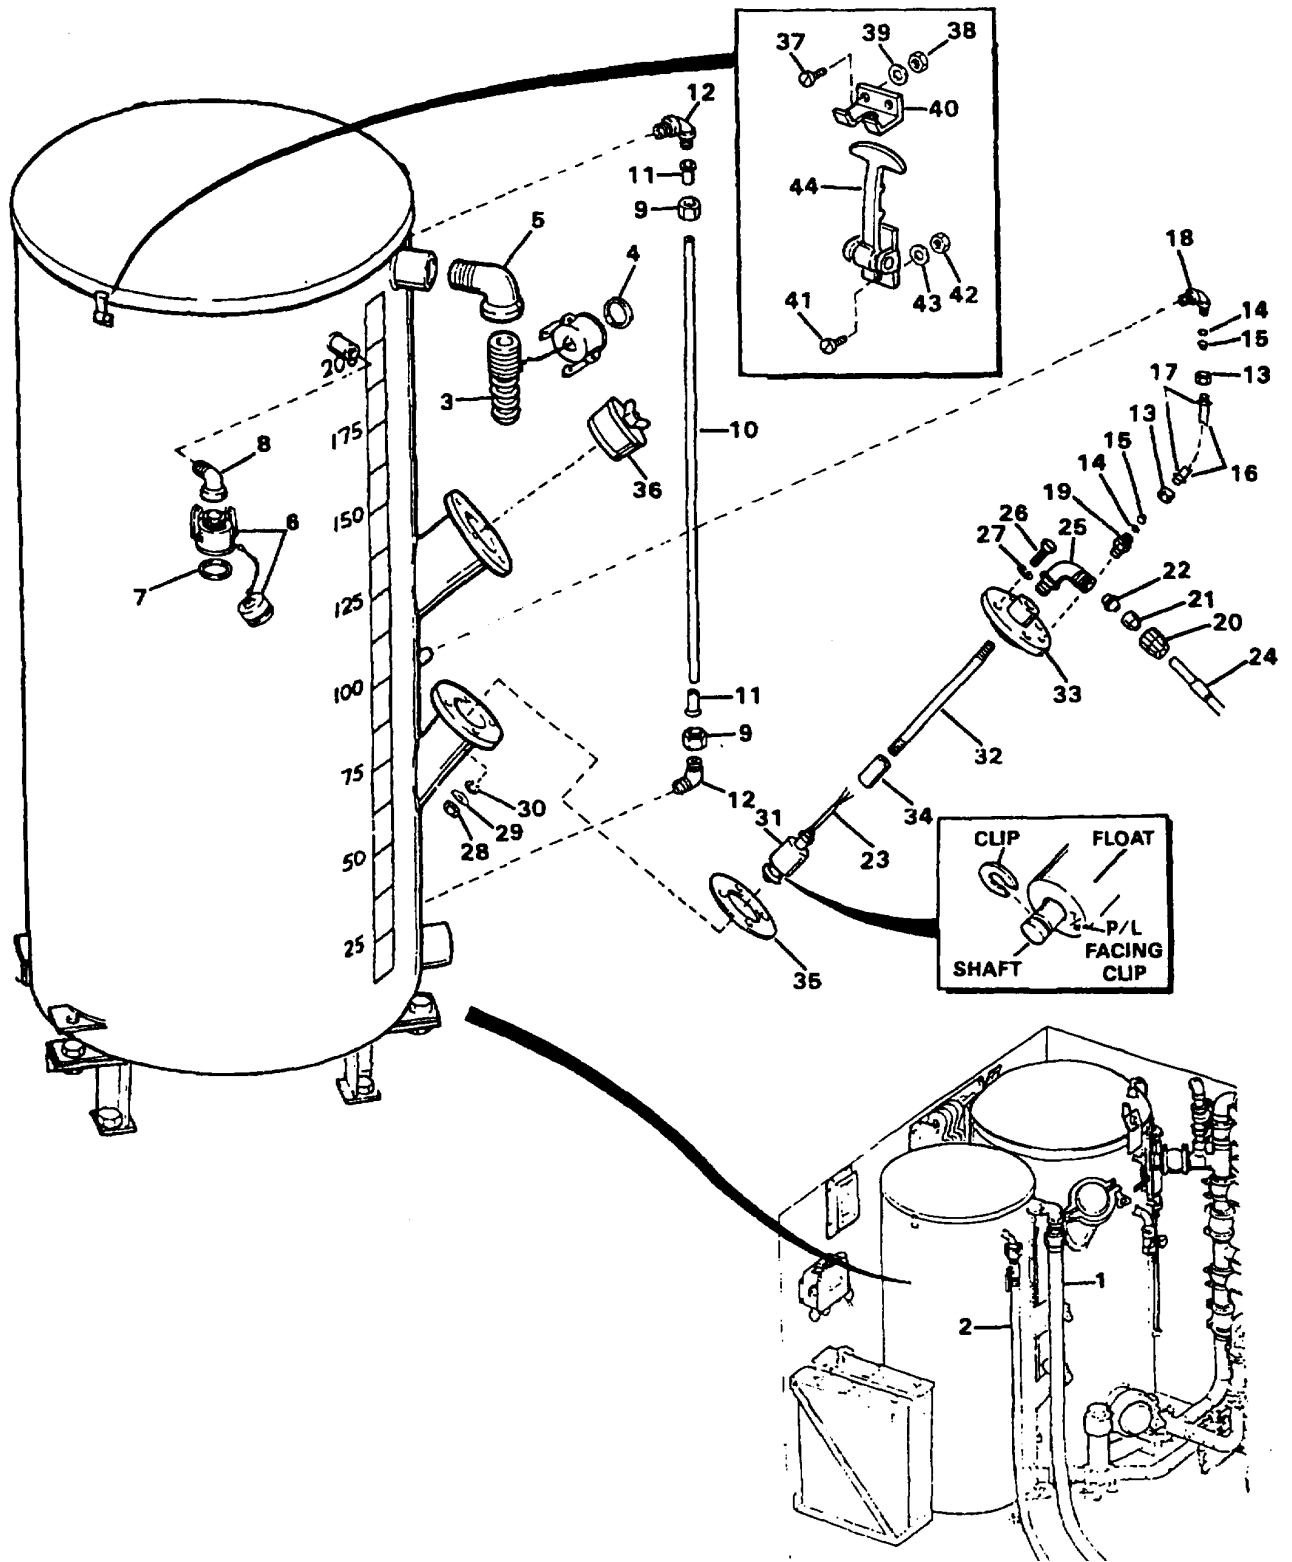

Figure 4-63. Clean/Flush Tank Assembly
- a. Disconnect hose (1, Figure 4-63) and hose (2) from tank.
- b. Turn elbow (5) out of tank.
- c. Remove coupling (3) with attached dust cap from elbow (5) and remove gasket (4).
- d. Turn elbow (8) out of tank.
- e. Remove coupling (6) with attached dust cap, from elbow (8) and remove gasket (7).
- f. Loosen tube nuts (9) and remove tube (10).
- g. Remove tube stiffeners (11) from tube (10).
- h. Remove elbows (12) from tank.
- i. Loosen nuts (13) until free of fittings (18 and 19).
- j. Remove preformed packing (14) and seals (15).
- k. Remove nuts (13) and tubing (16) with ferrules (17) attached.
- d. Replace chemical port cap (36) if it will not seal.
- g. Repair leaks in shrink wrap (24) around wires (23) by removing the level switch (31) and reassembling as described in the following reassembly procedure.
- a. Hold switch (31) with clip pointing downward and the wires (23) pointing upward as shown in Figure 4-63.
- b. Refer to the inset on Figure 4-63 and locate letters P/L on float. P/L must be at clip end of shaft. If not, remove clip, and reposition float on shaft with P/L at clip end. Reinstall clip.
- (1) Wires up/float down .....324 to 342 = continuity; 324 to 348 = open
- (2) Wires up/float up .....324 to 342 = open; 324 to 348 = continuity